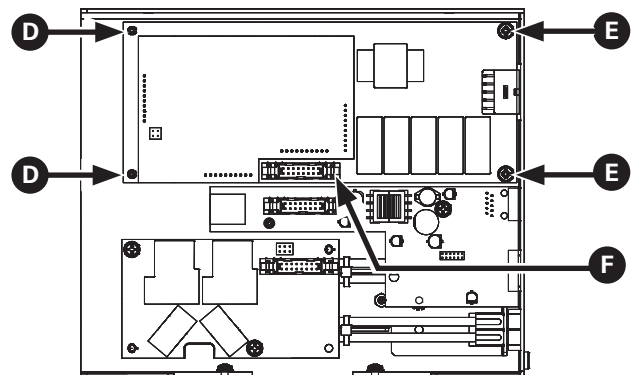

Fig. 2-25, SAG Card Standoffs, Screws and Ribbon Cable Locations
4. Install the SAG card by pressing it firmly onto the two standoffs **D** and fastening the two 6-32 screws **E** (see **Fig. 2-25**).